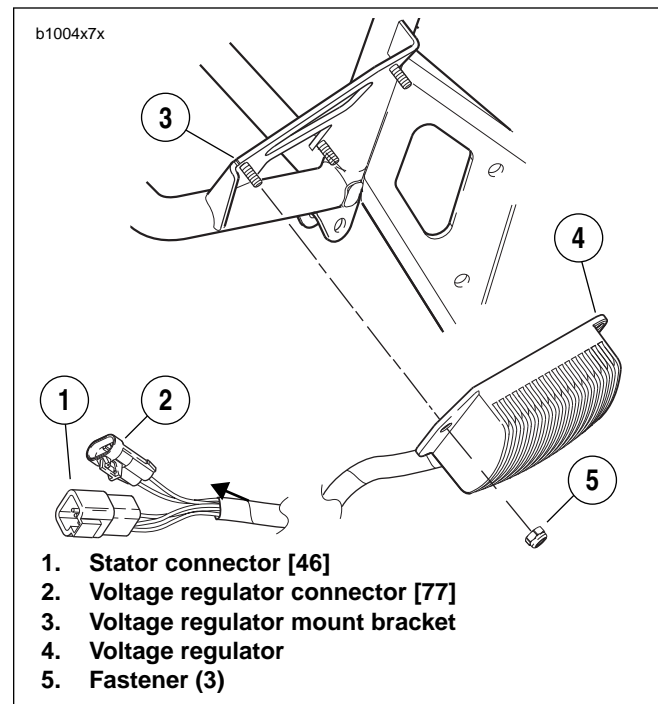

Figure 7-37. Voltage Regulator
3. See Figure 7-37. Disconnect stator connector [46] (1) and voltage regulator connector [77] (2) located under sprocket cover. See 7.25 SPROCKET COVER WIRING.
4. Remove fasteners (5) and voltage regulator (4) from bracket (3).
1. See Figure 7-37. Attach **new** voltage regulator (4) to bracket (3). Tighten **new** fasteners (5) to 36-60 in-lbs (4-6.8 Nm).
2. Connect stator connector [46] (1) and voltage regulator connector [77] (2) located under sprocket cover. See 7.25 SPROCKET COVER WIRING.